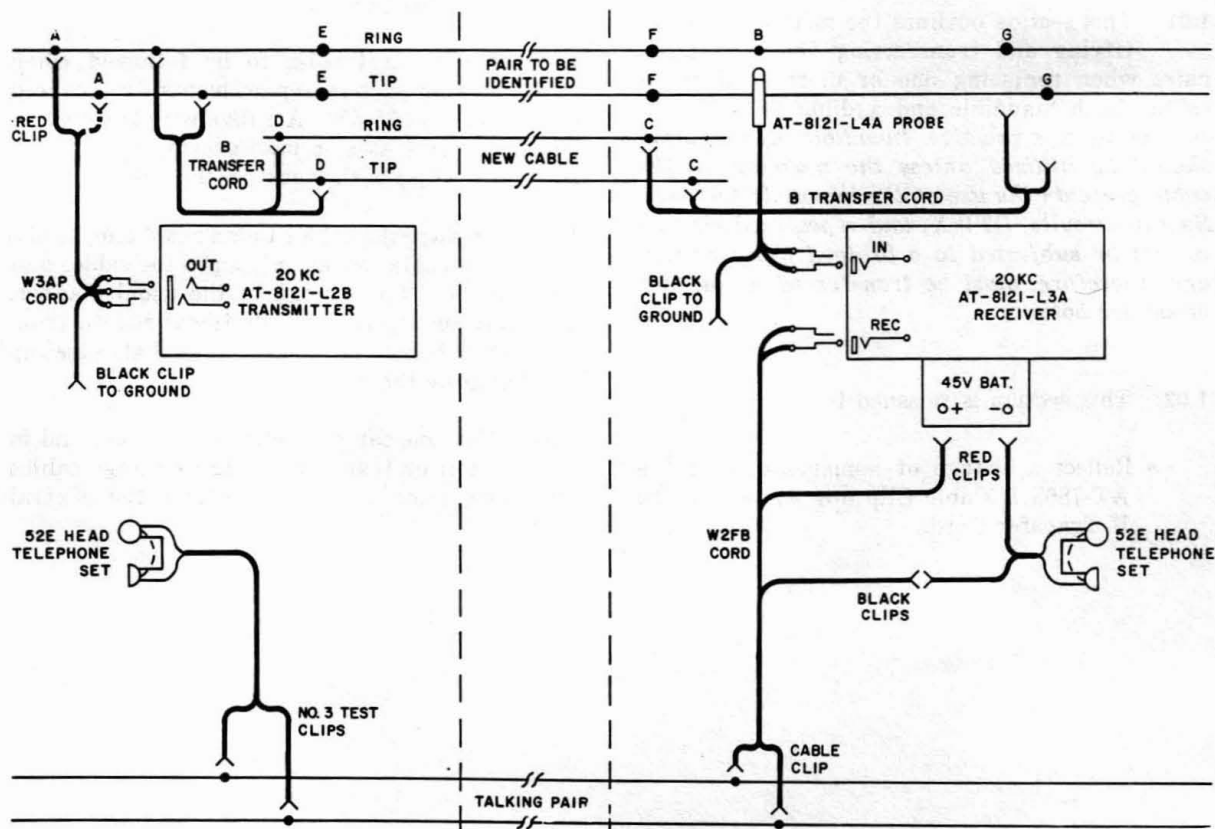

Fig. 1 — Identification of Voice-Frequency Pairs Using AT-8121, L1A Test Set
- (1) Make connections as shown in Fig. 1.
- (2) Plug in the W3AP Cord to turn on the transmitter at the sending end and connect the red clip to the ring side of the pair to be identified.
(3) Identify the ring side of the old pair at point B and verify ring side of new cable pair at point C with the AT-8121, List 4A Probe.
(4) Connect the red clip of the W3AP Cord to the tip side of the pair at point A.
(5) Identify the tip side of the old pair at point B and verify the tip side of the new pair at point C with the AT-8121, List 4A Probe.